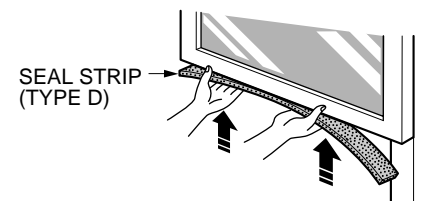

Figure 26
2. Cut the adhesive-backed seal strip (TYPE D) to the window width. Remove the backing from the seal strip and attach the seal strip to the underside of the bottom window. (Fig. 26)